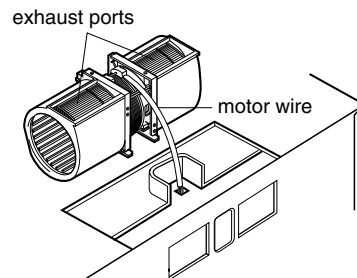

Figure 14
4. Leaving the motor wire connected, lift up, rotate and reattach the motor so that the exhaust ports face the top of the cabinet. See figure 14.